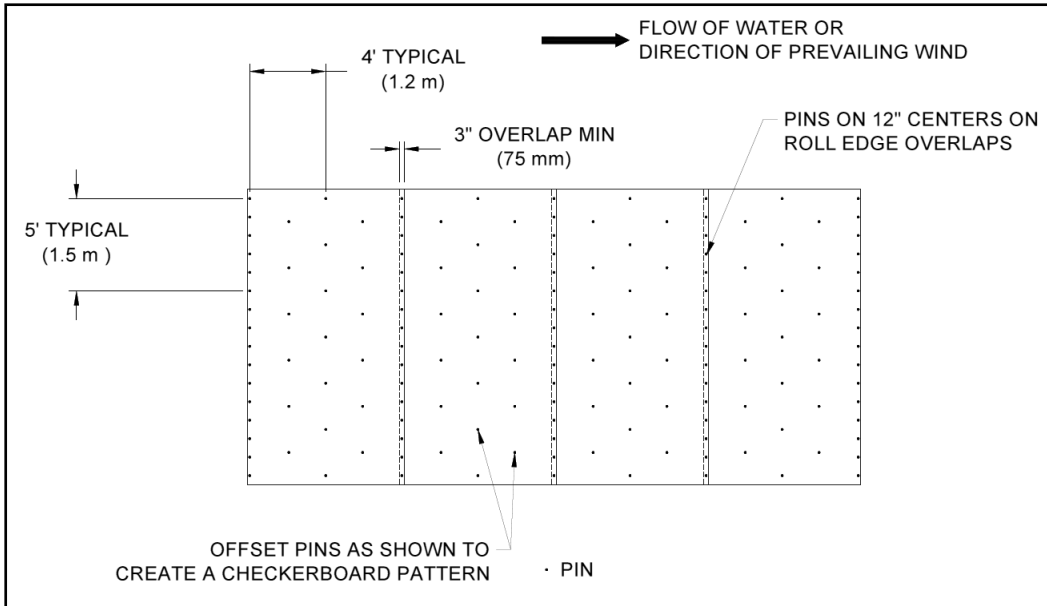

**Figure 6: Placement of LANDLOK across Slope**
5. Unroll the LANDLOK roll on the slope surface in the area to be armored (Figure 6). Ensure that LANDLOK has intimate contact with the ground and all irregular surfaces beneath LANDLOK are removed.